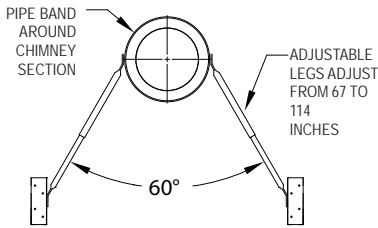

Figure 16
the chimney by setting the female end of the Cap onto the male end of the last chimney section. Secure the Cap by using (6) sheet metal screws provided. Do not push down from the top portion of the cap as this may damage the cap. Push from the lower section of the Cap if needed. The Chimney Cap can be removed for chimney cleaning as described in the Chimney Maintenance section of the instructions. Use an Extended Roof Bracket if the chimney extends more than 4 feet above the roof (**Figures 16 & 17 in the Extended Roof Bracket section**).
2. Attach the Legs: The Adjustable Legs of the assembly will adjust from 67" to 114". Secure one end of the Legs to the Pipe Band using the nuts and bolts included (1 per Leg). Position the Adjustable Legs so they form approximately a 60° angle with the chimney, and with each other (*Figures 16 and 17*). Be sure that there is at least 3" of overlap between the top and bottom halves of the Adjustable Leg to ensure a secure fit. In order to secure Legs in proper position, there is a hole provided in the outer leg where the outer and inner halves overlap. Use a 1/4" drill bit to drill through the inner leg at that location. Use the nut & bolt provided to pin the Adjustable Legs in position.